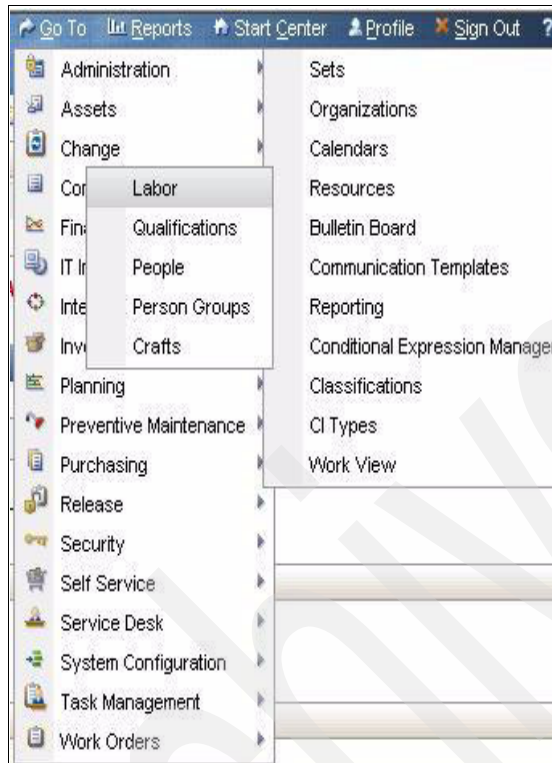

Figure 5-38 Labor
2. From the Start Center navigate to the Go To function and select **Administration** → **Resources** → **Labor** (see Figure 5-38).